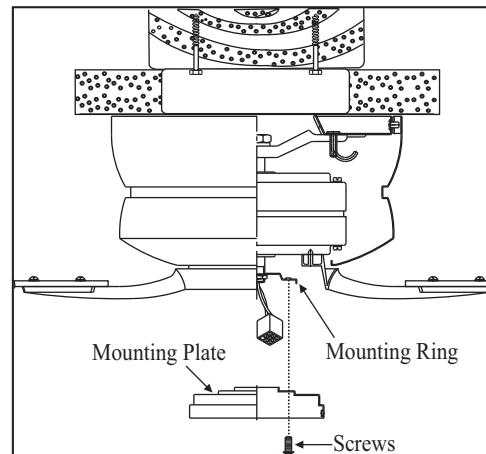

Figure 12
2. Place the key holes on the mounting plate over the 2 screws previously loosened from the mounting ring, turn mounting plate until it locks in place at the narrow section of the key holes. Secure by tightening the 2 screws previously loosened and the one previously removed (Fig. 12).